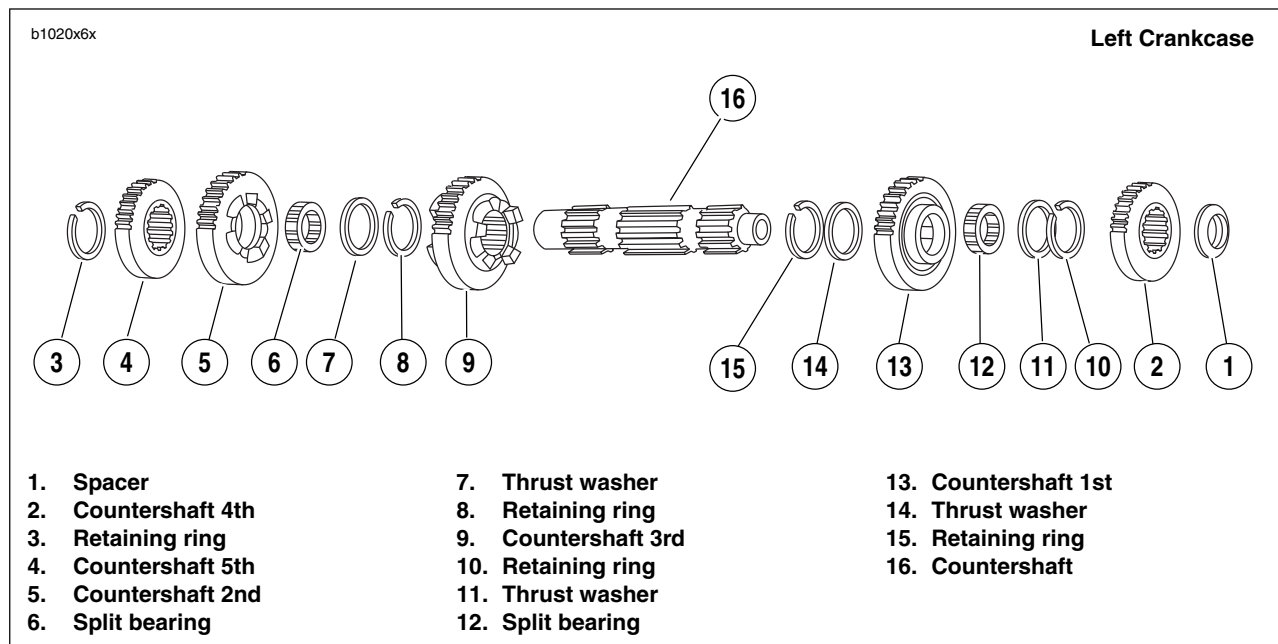

Figure 6-63. Transmission Countershaft Assembly Once Removed from Left Crankcase/Disassembly
- See Figure 6-63. Remove spacer (1) and countershaft 4th gear (2) from the end of the of the countershaft with internal threads.
- Using RETAINING RING PLIERS (Part No. J-5586), remove and discard retaining ring (3) next to countershaft 5th gear (4).
- Slide countershaft 5th (4), and countershaft 2nd (5) off end of countershaft.
- Remove split bearing (6) that was under countershaft 2nd gear (5) and thrust washer (7).
- Remove retaining ring (8) on the countershaft and slide countershaft 3rd gear (9) off free end of countershaft.
- Expand retaining ring (10) located next to countershaft 1st gear (11). Remove retaining ring (10) and thrust washer (11).
- Slide countershaft 1st gear (13) off end of shaft.
- Remove split bearing (12).
- Remove thrust washer (14). Expand remaining retaining ring (15) and slide off countershaft.